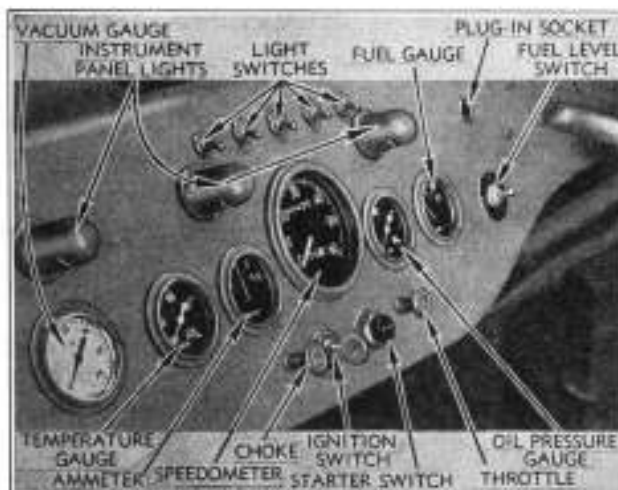

Fig. 3, Instrument Panel
a. **General** (figs. 3 to 7). It is essential that the driver be thoroughly familiar with the
controls and their location before attempting to operate the vehicle. The driver should study the controls (figs. 3 to 7), as there are some controls which are not found on standard vehicles.
(1) **Ignition Switch** (fig. 3). The ignition switch is located directly below the speedometer. This switch requires a separate key for its operation. It must be turned to the right to complete the electrical circuit necessary to start the engine.
(2) **Lighting Switches** (Fig. 3 and 4). The lights are controlled by a series of five switches located on the upper part of the instrument panel. Reading from the left side to the right side of the dash the switches are as follows: 1. Instrument panel light. 2. Stop light isolating. 3. Tail light only. 4. Side lights only. 5. Head lights only.
(4) **Fuel Gauge Switch and Two-way Valve (Fig. 3 and 5).** The fuel gauge switch is located to the left of the steering column and its purpose is to check the amount of fuel in the fuel tanks. The two-way valve is located in front of the driver's seat and controls the flow of fuel from only one tank. When the valve handle is turned to either left or right as shown on the plate it indicates which tank fuel is drawn from.
(5) **Choke Control (fig. 3).** The choke con-
(6) **Throttle Control (fig. 3).** The throttle consists of a button—attached to a wire and housing assembly—which is secured to the carburetor throttle arm at its opposite end. The button is located on the instrument panel below the oil gauge to the right of the ignition switch and is identified by a letter "T" on its face. Its purpose is to provide increased engine speed beyond that provided by the idling adjustment on the carburetor. It is used chiefly in starting the engine when not convenient or practical to use the foot accelerator. Pulling the button outward opens the throttle. After the engine has been started, the button should be pushed in and acceleration or deceleration controlled by the foot accelerator pedal.
(8) **Starter Motor Button** (fig. 3). The starter motor button is located on the instrument panel between the ignition switch and throttle lever and is easily accessible for operation with the left hand. Its purpose is to complete the electrical circuit to the starter motor, so that it can crank the engine. To operate, press the button with the left hand and hold it in the depressed position until the engine starts. **CAUTION:** Do not press the starter button while the engine is running or while the shifting lever is in gear.